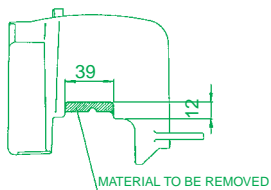

Fig. 1
- Fit the head gasket (9) and the original head, duly cleaned from any carbon deposits, on the stud bolts fully home on the cylinder.
- Fit cover (modified as shown in Fig. 1) on the cylinder, the air conveyor, and the new spark plug (see section “Important notes”).